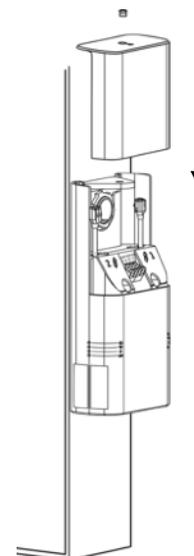

Fig 30
- Close the cover plate (**Fig 30**) and proceed to commission Energy Data Gateway.